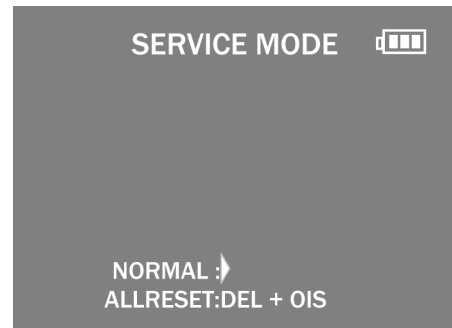

Fig.3-5
3. Do not press any buttons/keys until the default menu (Fig.3-5) is displayed on the LCD monitor. Otherwise, adjustment data may not be stored properly.